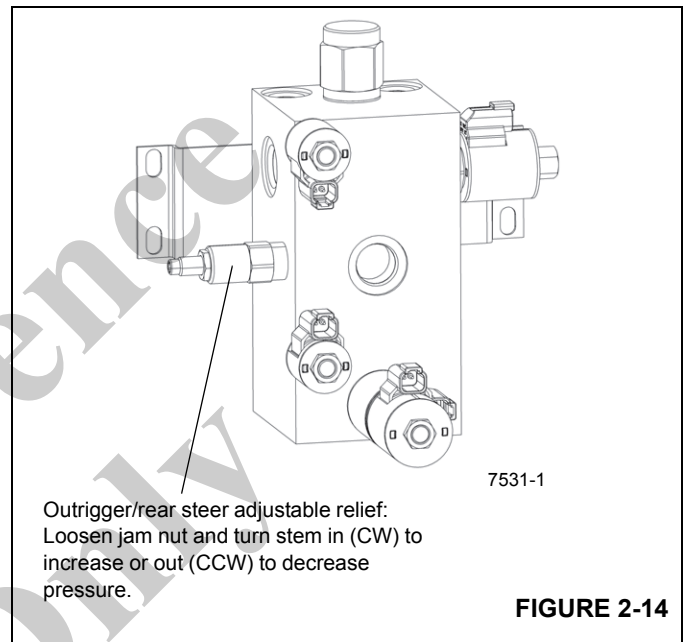

FIGURE 2-14
1. Install pressure check diagnostic quick disconnect with gauge onto test nipple at outrigger/rear steer valve pressure check port Figure 2-14.